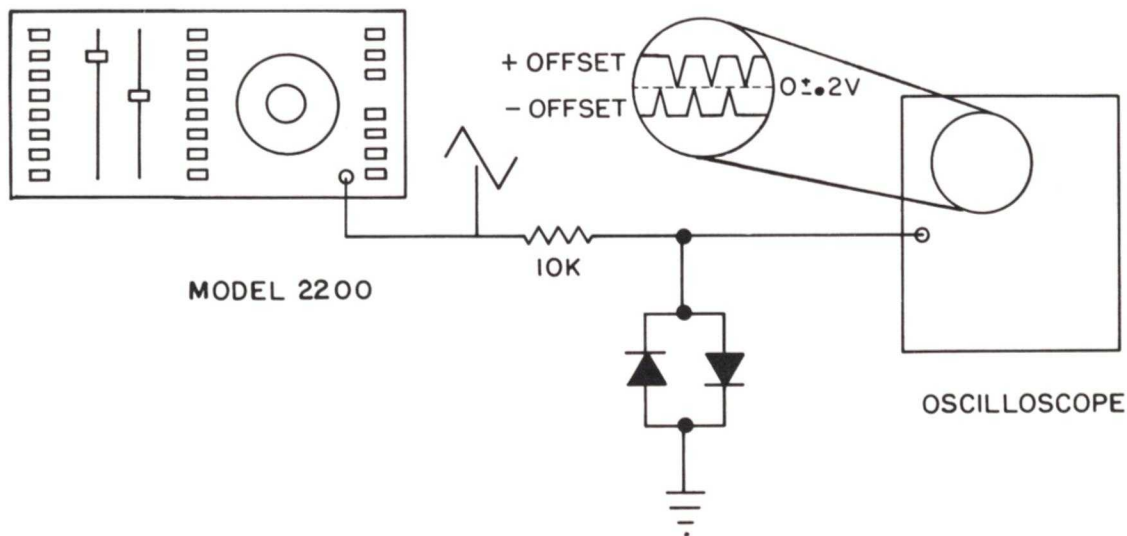

Figure 7. Test Circuit for FIXED OFFSET Adjust
Set the WAVEFORM switch to \wedge frequency to 500 Hz. Switch the DMM to AC operation, and switch the FIXED OFFSET control to the \square (+) position; adjust R509 for an AC reading of 4.16 volts to 4.25 volts. Return the FIXED OFFSET to the \square (off) position. Switch the DMM to DC operation and readjust R528 for a reading of zero, ± 20 millivolts. Disconnect the DMM and connect the generator MAIN OUT to the scope through the clipping circuit shown in Figure 7. The circuit consists of a 10k ohm resistor (carbon or film) in series with the MAIN OUT and the scope input, plus two (2) back-to-back diodes across the scope input terminals. Return the FIXED OFFSET control to the \square (+) position; set the scope vertical input sensitivity to 0.2V/cm, DC coupled, horizontal to 1 ms/cm cal.